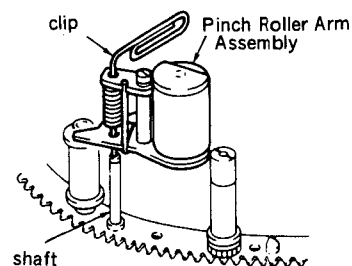
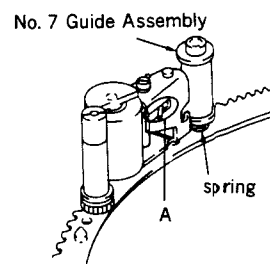

Fig. 4
Fig. 6
- (6) Remove the Pinch Roller Arm Assembly in the direction of the arrow. (fig. 4)
- (4) Put the end of the clip to the shaft of the Threading Ring Assembly and install the Pinch Roller Assembly. (fig. 4 and 5)
- (5) Hook the end of the spring to the No. 7 Guide Assembly.
- At this time, check that the another end of the spring is hooked to "A". (fig. 6)
- (6) Assemble the parts with Removal Steps (1) to (3) in reverse order.